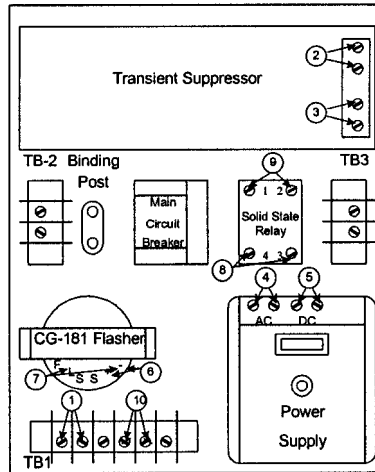

Figure 7-2
- b. Failure to obtain the following voltages at the test points identified in Figure 7-2 will identify a failed component. After removing one yellow lead from one of the "S" terminals (if equipped) on the flasher, measure the following: